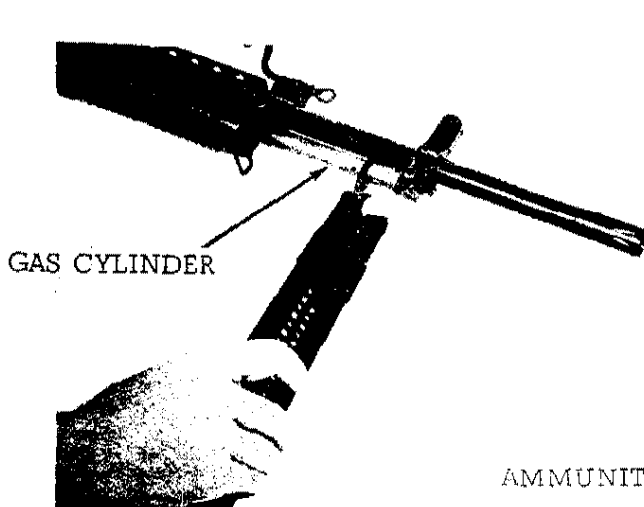

FIGURE 8. INSTALLATION OF BIPOD
a. The light machinegun, belt-fed, may be fired from the prone, sitting, hip, or standing position. When using the bipod, the bipod will be clamped to the front of the gas cylinder (figure 8).